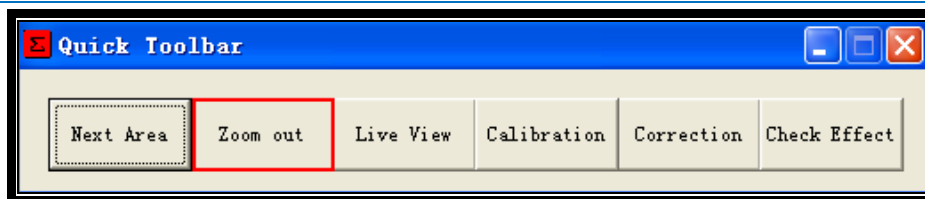

Fig.3-21
Step20: Click the “Zoom out” button on Quick Toolbar, as shown in figure 3-21.